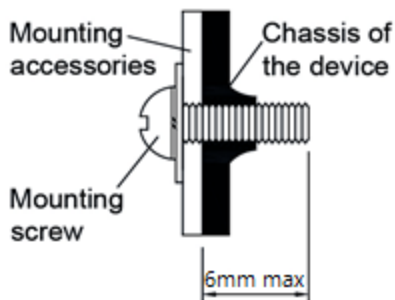

Fig. 4 Mounting Screw
- **For PMT and PML Series (Refer to Fig. 4):** Only use M3 screw $\leq 6\text{mm}$ (0.23 inch) through the base mounting holes. This is to keep a safe distance between the screw and internal components. Recommended mounting tightening torque: 4~7 Kgf.cm (3.47~6.08 lbf.in).